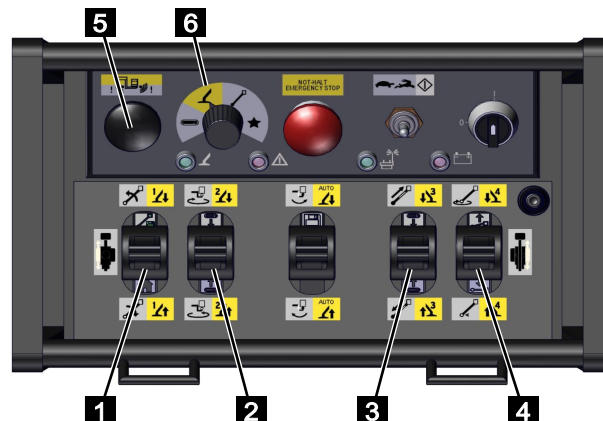

Fig. 129
4. Set the function selector to [bracing function] (yellow) (Fig.129/5).
5. Press and hold the collision button (Fig.129/5).
6. Use the control levers (Fig.129/1, 2, 3 and 4) to move the desired outrigger(s) as shown in the following table.